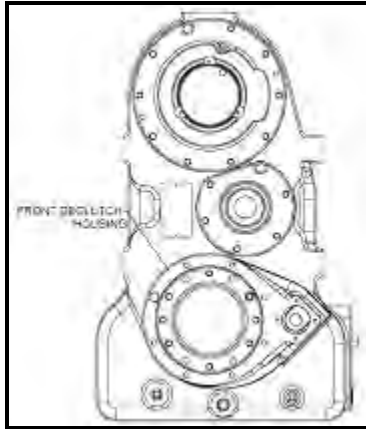

Figure 79
4. Position the front declutch housing on the transfer case such that the shifter shaft bores are directly to the left of the lower shaft bore (as viewed when the unit is installed in the vehicle). See **Figure 79**.
installed in the vehicle as in **Figure 79**. Install the ten cap screws and washers to secure the carrier to the TC housing. Torque to specification.
2. Position the transfer case with its front end (name plate) upward. The front declutch housing should already be installed. See **Figure 79**.